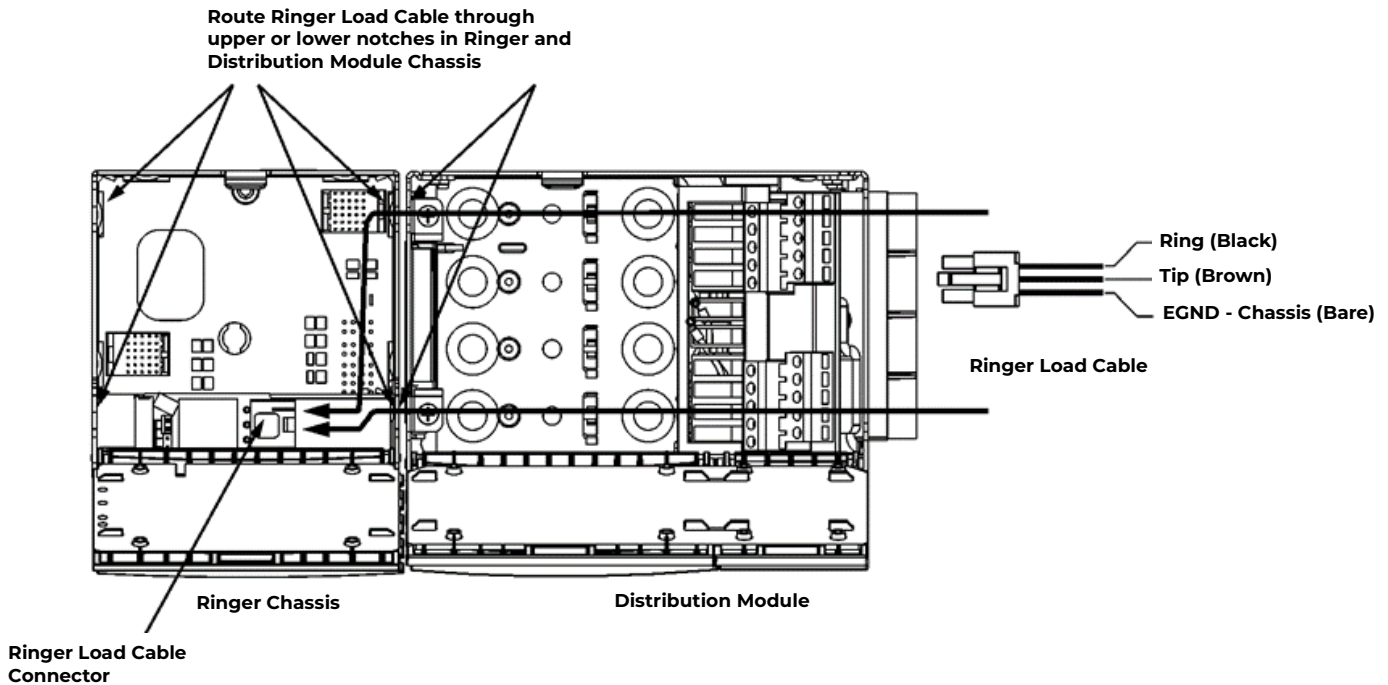

Figure 5-18: Ringer Load Cable and Routing
8.	Warning: Consider the Ring signal as hazardous voltage. Connect Ringer loads using Molex 39-01-4031 connector, Socket Terminal to the HDR13 plug located inside the Ringer Chassis at the bottom-front. See Figure 5-18.
9.	Route ringer load cables through upper or lower notches in Ringer chassis and distribution module chassis. See Figure 5-18.